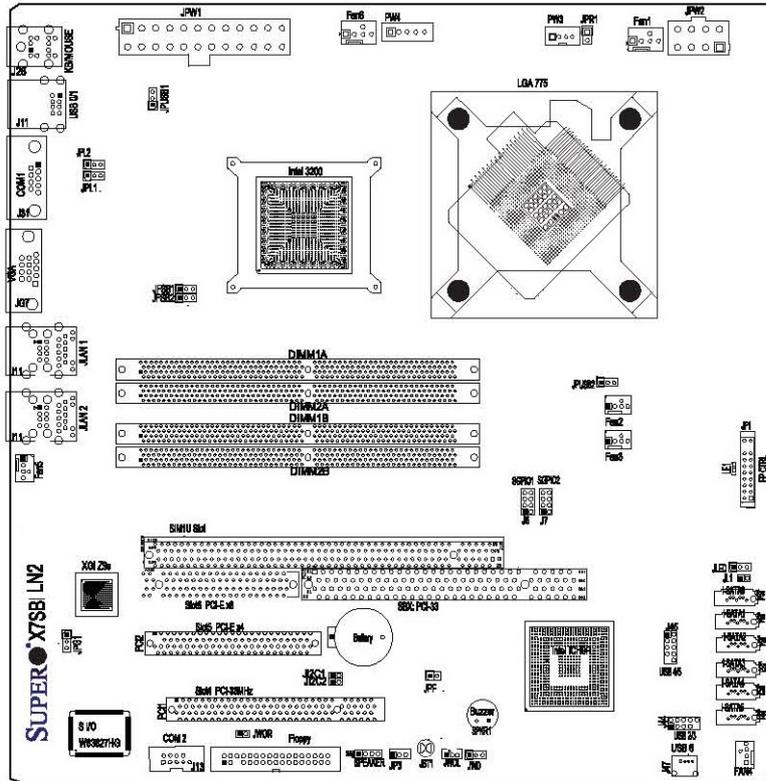

Figure 17: System board internal cable connectors
8. Connect the CPU fan cable to the CPU Fan 6 connector. See Figure 17 on page 103.
Note: To assist you in reconnecting the cables to the system board, see the following table and Figure 17 on page 103.